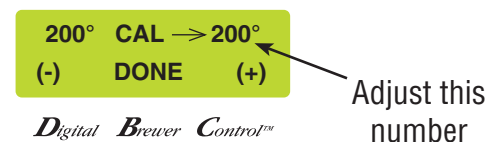

FIG. 20-2 CALIBRATION
4. Select "YES". The display should show something similar to the screen below (FIG 20-2).